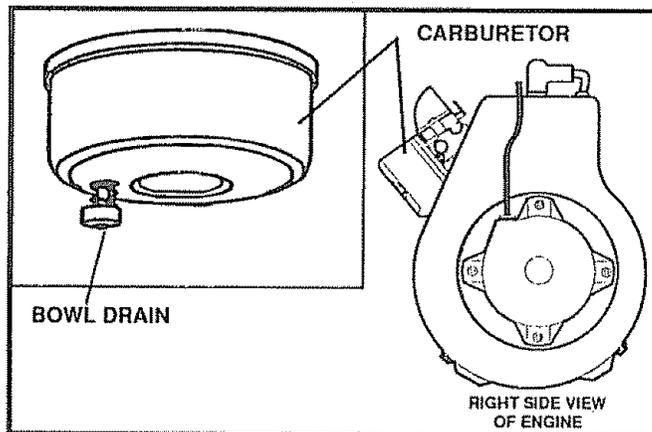

FIG. 19
- To remove gasoline, run the engine until the tank is empty and the engine stops. Then drain remaining gasoline from carburetor by pressing upward on bowl drain located on the bottom of carburetor (See Fig. 19)